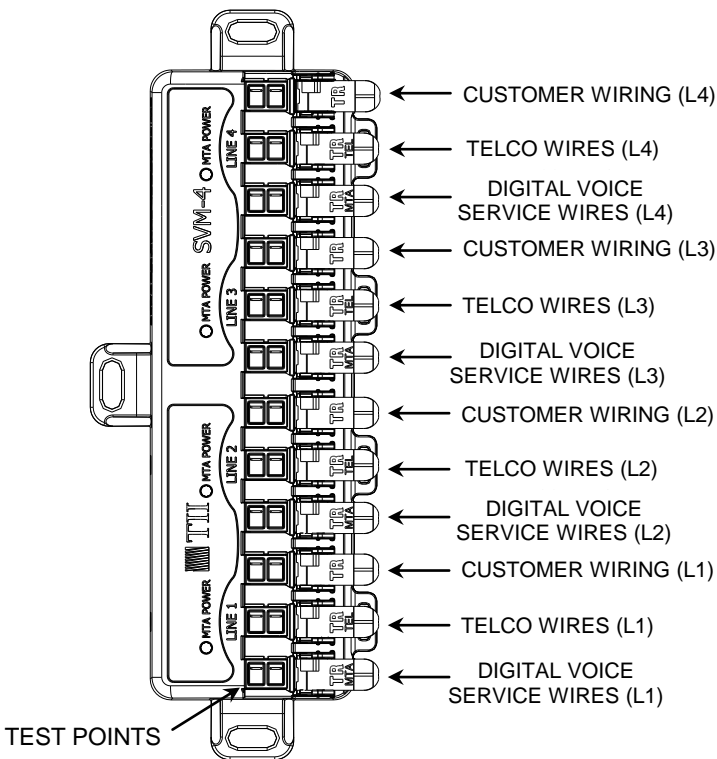

Figure 3
3.6 Disconnect the customer premise wiring from the Telephone Network Interface Device (NID). Straighten the ends of the wires, cut kinked and stripped ends. Lift the Green/Red rocker to full up position. Insert wires into the Customer wire rocker holes. While assuring that wires are fully inserted lower the rocker to fully seated position (See Fig 3).